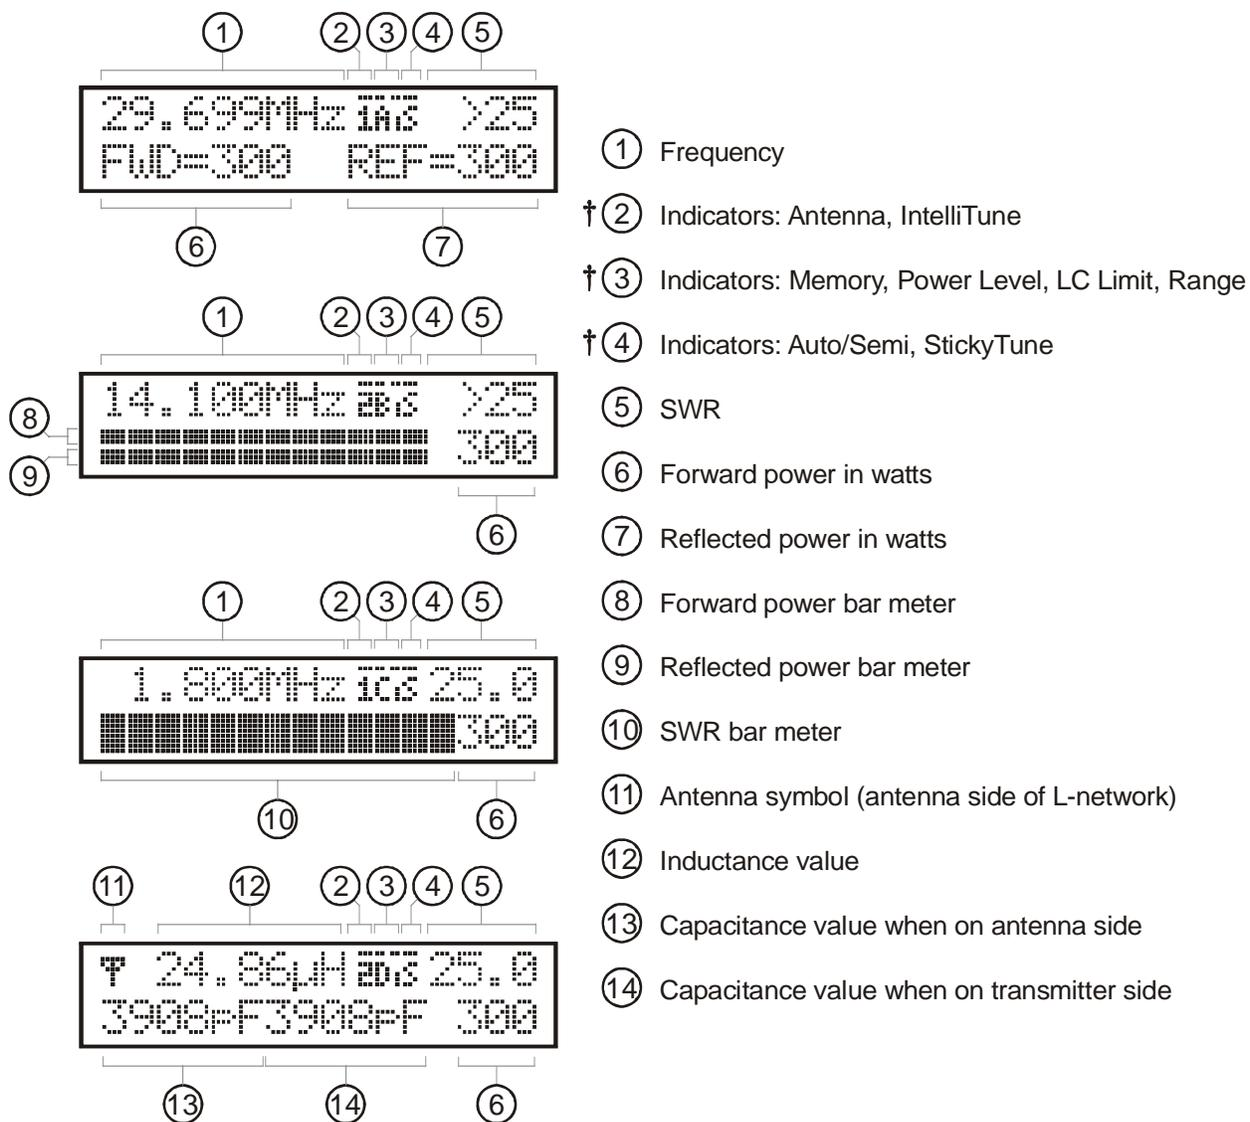
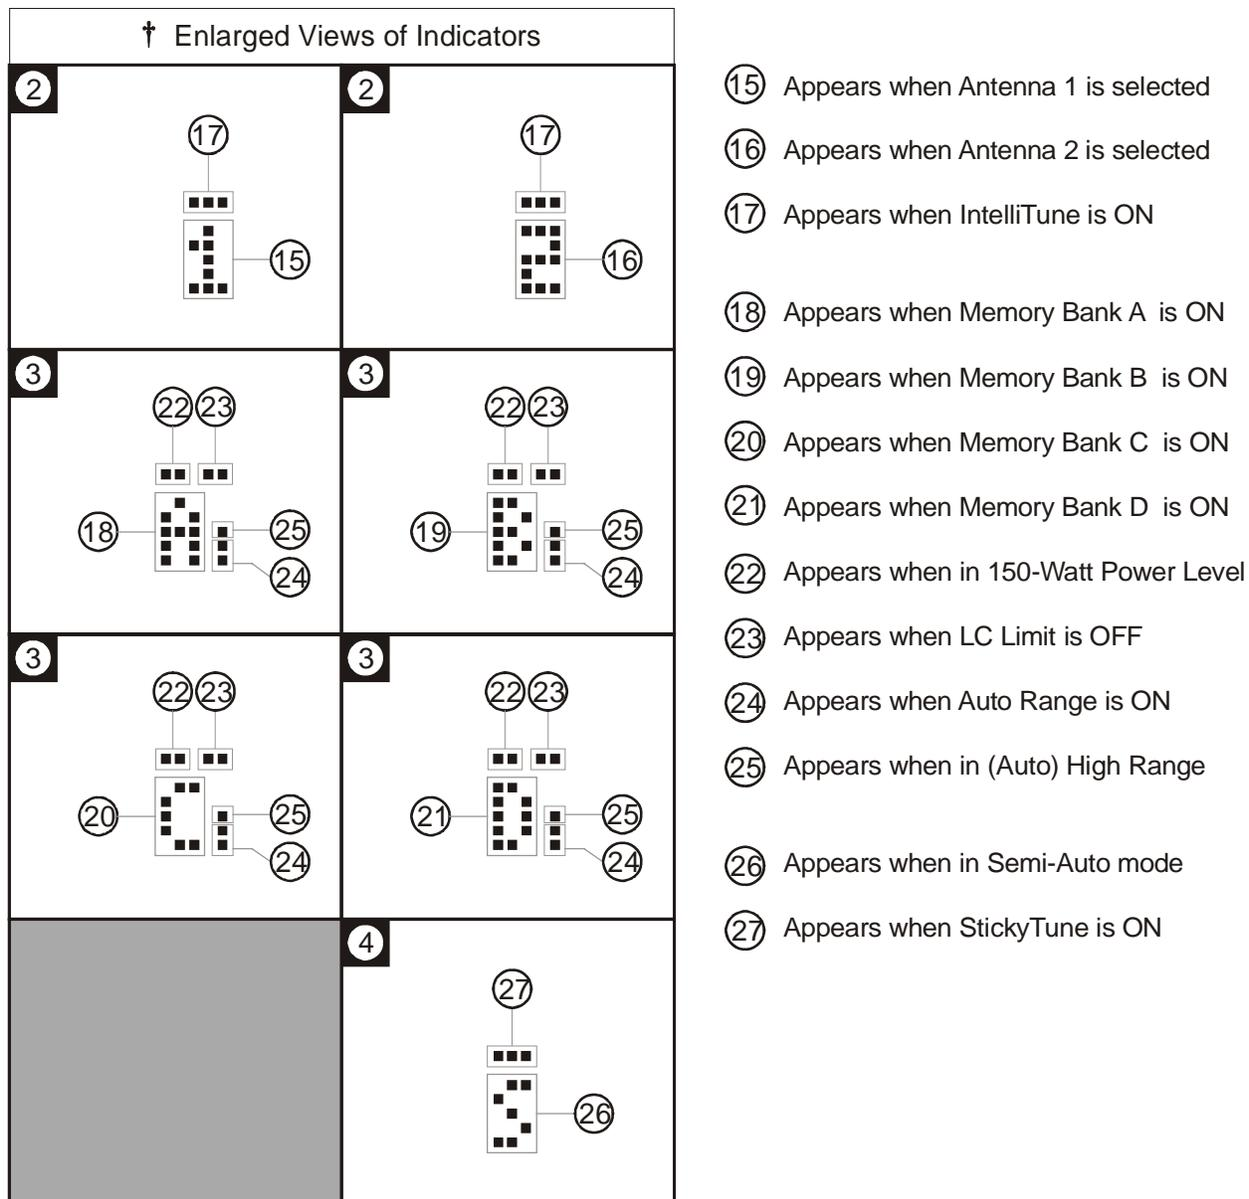

Figure 11. Main Mode Menu Display.
Figure 12. Tuner Indicators.
- LCD Display:** A 2-line by 16-character alphanumeric display. It displays the tuner’s various menus and status. The display contrast can be adjusted by the [LCD] control on the front panel. Below the display are the SWR and power bar meter scales. Refer to Figures 11 and 12 for descriptions of the various displayed information.
The meter can be set to low, high, or auto range. Auto range automatically sets the meter scales according to the input RF power to the tuner. Forward power greater than 30 watts or reflected power greater than six watts automatically sets the meter to the high power range. Forward power less than 25 watts and reflected power less than four watts automatically set the meter to the low power range. To cycle the meter range among low, high, and auto range, press the [TUNE] and [L-DN] buttons simultaneously. The forward needle will read “300” for high range, “30” for low range, and “100” for auto range until the buttons are released. When auto range is enabled, a two-dot vertical segment (low range) or a three-dot vertical segment (high range) appears in the lower right corner of the Range indicator on the main LCD screen. One beep indicates high range is selected; two beeps indicate low range; three beeps indicate auto range. Refer to Figures 11 and 12 for the on-screen Range indicator.
The main mode menus show various tuner settings and status. There are four main mode menus arranged in a “wrap-around” structure. When powered on, tuner operation starts with the main menu that was last used. Within each main menu, press the [MODE] button briefly to view the next main menu. Press and hold the [MODE] button for two seconds to enter the setup mode (see below). Various tuner indicators are shown on all four main menus: Antenna 1/2, IntelliTune™, Memory, Power Level, LC Limit, Meter Range, Auto/Semi, and StickyTune™. Refer to Figures 11 and 12 for details on the displayed information.
The power meter can be set to auto range. Auto range automatically sets the meter scale according to the input RF power to the tuner. Forward power greater than 30 watts or reflected power greater than six watts automatically sets the meter to the high power range. Forward power less than 25 watts and reflected power less than four watts automatically set the meter to the low power range. When auto range is enabled, a two-dot vertical segment appears on the on-screen tuner indicator. Refer to Figures 11 and 12 for the on-screen Range indicator.
Various tuner indicators are shown on the main menus to indicate tuner status. Refer to Figure 11 for locations of these indicators. The number enclosed within ( ) is the item number of Figure 12.
Allows you to select the meter scale range. In the 30 watts (low) range, the forward full scale is 30 watts and the reflected full scale is 6 watts (divide the meter reading by 10). In the 300 watts (high) range, the forward full scale is 300 watts and the reflected full scale is 60 watts. Auto range automatically sets the meter scales according to the input RF power to the tuner. Forward power greater than 30 watts or reflected power greater than six watts automatically sets the meter to the high power range. Forward power less than 25 watts and reflected power less than four watts automatically set the meter to the low power range. Refer to Figures 11 and 12 for the on-screen Meter Range indicators. Default is 300 watts range.
for Antenna 1 and Antenna 2 (settings for balanced line or single-wire antenna are stored as Antenna 1). This provides memory for up to eight different antennas. Refer to Figures 11 and 12 for the on-screen Memory indicator. Defaults are memory banks 1A and 2A ON.
Turns the *IntelliTune*TM tuning algorithm on and off. When the tuner cannot find an appropriate setting in its memory, it begins its calculation function. It measures the complex impedance of the antenna (load) at the transmitting frequency, then it calculates the L/C components needed for a match. Then it fine-tunes the component values. If for any reason the tuner cannot calculate the load impedance, it proceeds to yet another method of calculation. If for any reason, this function can be turned off. Refer to Figures 11 and 12 for the on-screen *IntelliTune*TM indicator. Default is ON.
The upper limits of inductance (L) and capacitance (C) are factory-limited according to frequency and maximum power rating; i.e., higher frequencies need less inductance and less capacitance when the L-network is properly tuned. Pressing [C-UP] and/or [L-UP] allows capacitance and inductance to be increased only to these limits. When a selected capacitance or inductance is higher than its allowed limit, and the frequency is changed, that selection is automatically reduced to the value of its limit. These limits are used to prevent matching of extreme load impedance outside the tuner's specification, which may result in excess voltage and/or current across the tuner's components. This setting is not stored in non-volatile memory and reverts back to the default when the tuner power is turned off. Refer to Figures 11 and 12 for the on-screen LC Limit indicator. Default is ON.